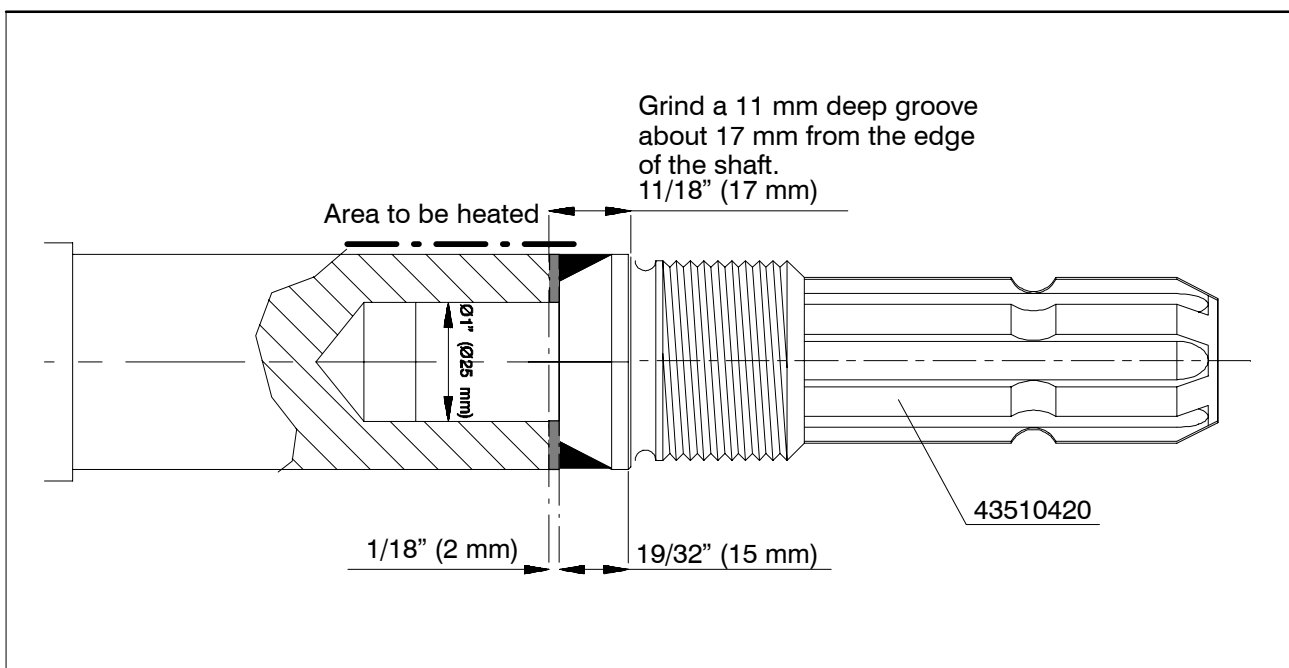

Fig. 27. Replacing the splined shaft.
4. Grind an 11-mm-deep groove about 17 mm from the edge of the shaft. See Fig. 27.
7. Clean the shaft hole and install the new shaft as shown in Fig. 27..